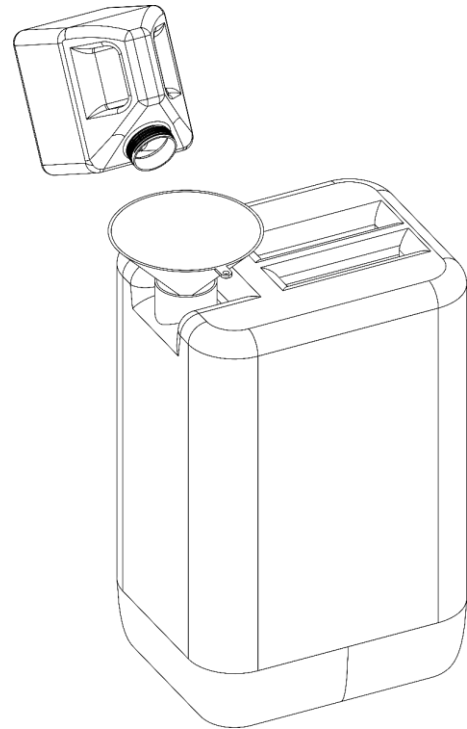

Fig. 43
- 07) Use a funnel to pour the fog fluid from the tank into original fog fluid jerry can, as shown in Fig. 43.